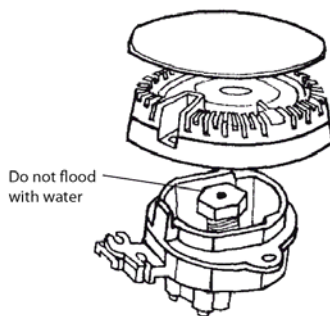

Fig. 24
- During cleaning the hob, avoid excess water to prevent it from getting into the hob recess and flooding the nozzles (Fig. 24). If the nozzle is flooded, the burner will not ignite.